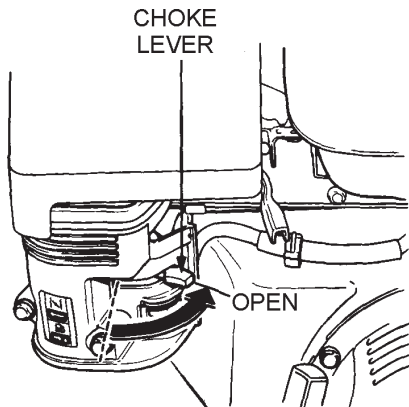

Figure 16. Engine Choke Lever (Open)
- Place the **choke lever** (Figure 16) in the "**OPEN**" position if starting a **cold engine**.